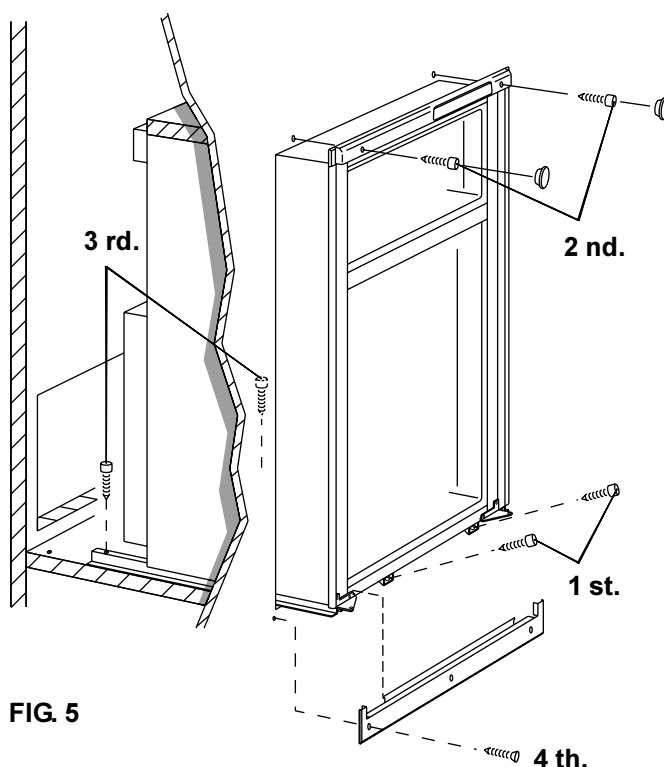

FIG. 5
STEP 4: The refrigerator is provided with a lower front strip (shipped as a loose part). The front strip is to be attached after the refrigerator is set into the cutout opening, and secured with 3 screws, (not included). (See FIG. 5).